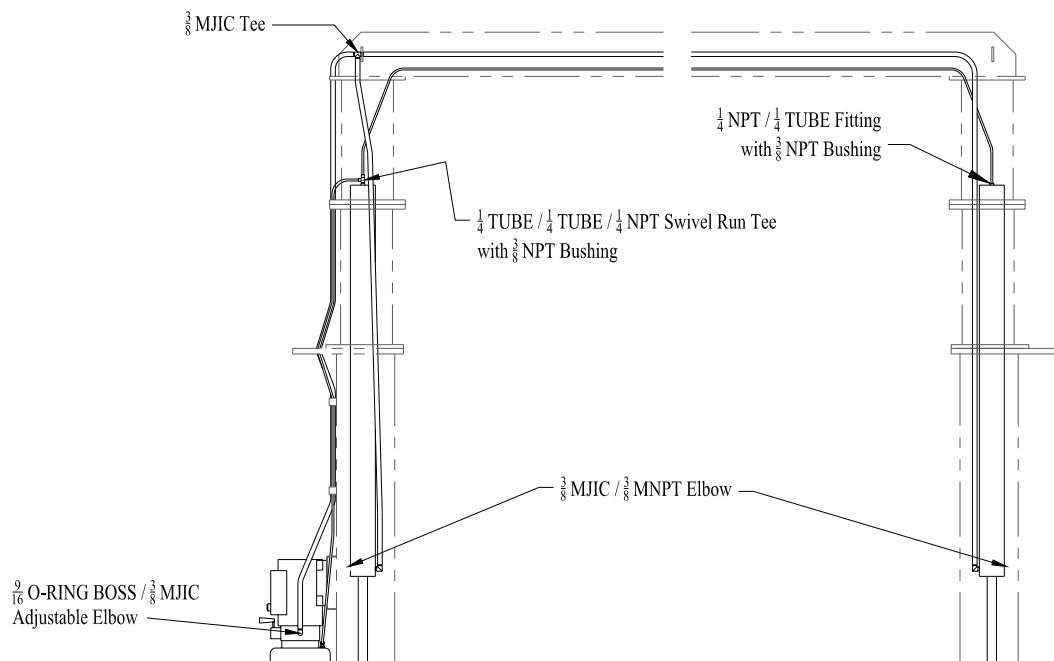

Figure 12
12. Hydraulic system, figure 12.
14. **Bleeding the hydraulic system, figure 12.**
15. **Connecting the return lines, figure 12.**